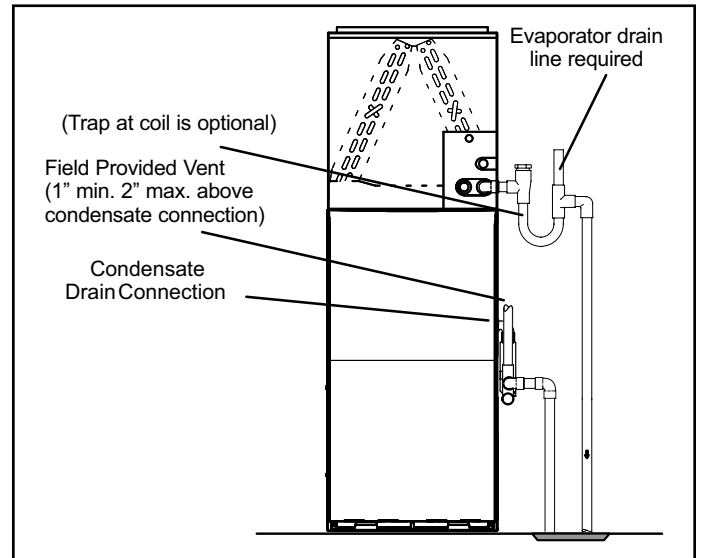
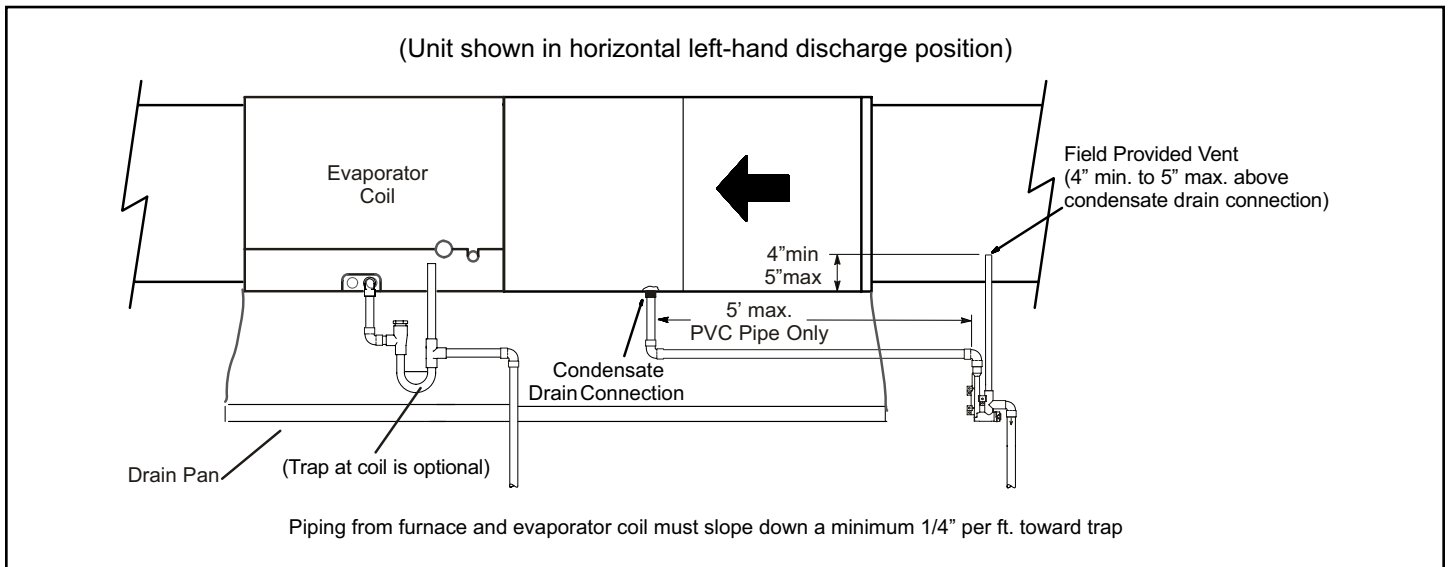
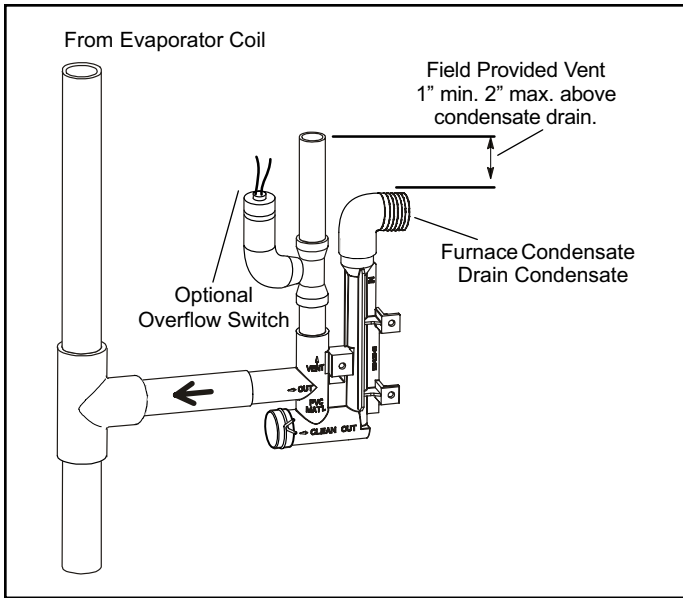
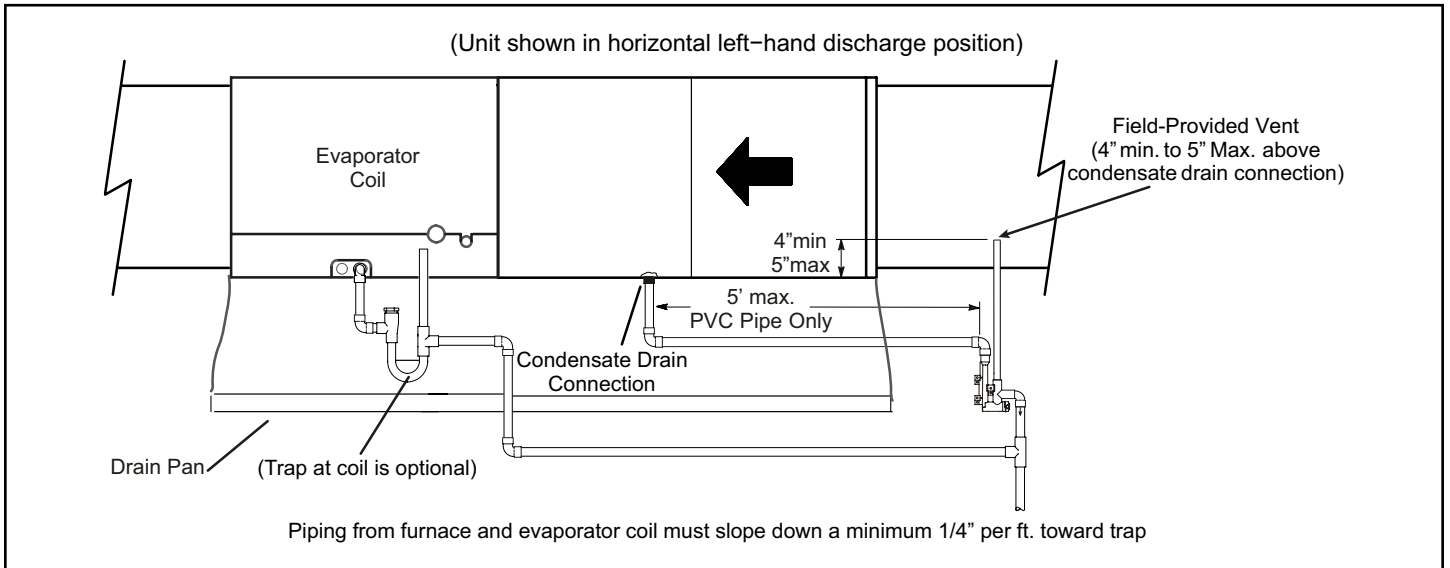

Figure 47. Furnace with Evaporator Coil Using a Separate Drain
Figure 48. Furnace with Evaporator Coil Using a Separate Drain
Figure 49. Condensate Trap With Optional Overflow Switch
Figure 51. Furnace with Evaporator Coil Using a Common Drain
5. Figure 47 and Figure 48 show the furnace and evaporator coil using a separate drain. If necessary the condensate line from the furnace and evaporator coil can drain together. See Figure 49 through Figure 51.
Upflow furnace (Figure 47) - In upflow furnace applications the field provided vent must be a minimum 1" to a maximum 2" length above the condensate drain outlet connection. Any length above 2" may result in a flooded heat exchanger if the combined primary drain line were to become restricted.
Horizontal furnace (Figure 48) - In horizontal furnace applications the field provided vent must be a minimum 4" to a maximum 5" length above the condensate drain outlet connection. Any length above 5" may result in a flooded heat exchanger if the combined primary drain line were to become restricted.